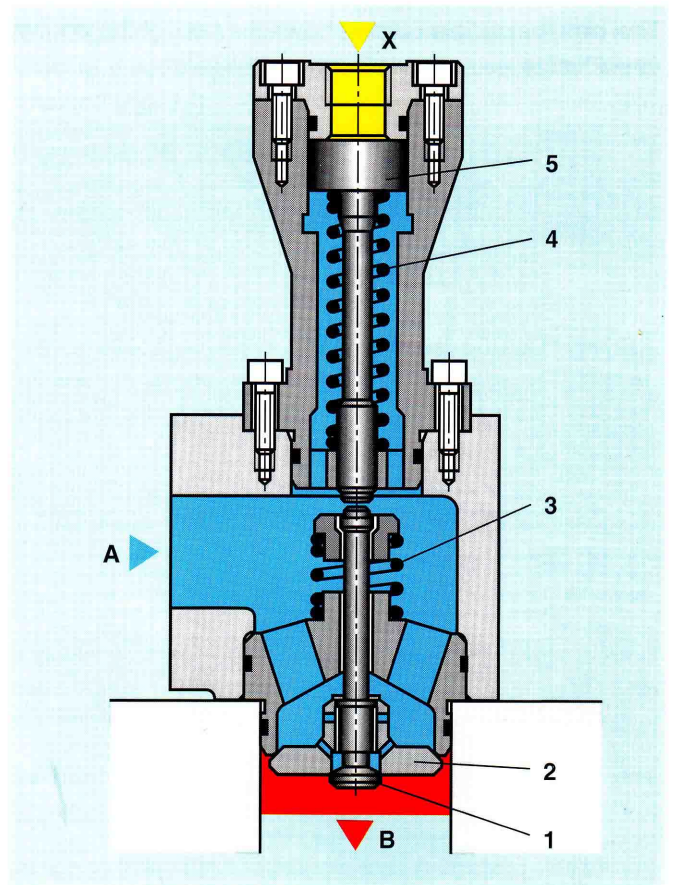

Fig. 20: Pre-fill valve with pre-opening poppet
The valve shown in *fig. 20* comprises pilot poppet (1) and main poppet (2) which are held on their seats by spring (3). The force of this spring only exceeds the weight of the poppet by a small amount. Spring (4) pushes the control piston (5) into start position.